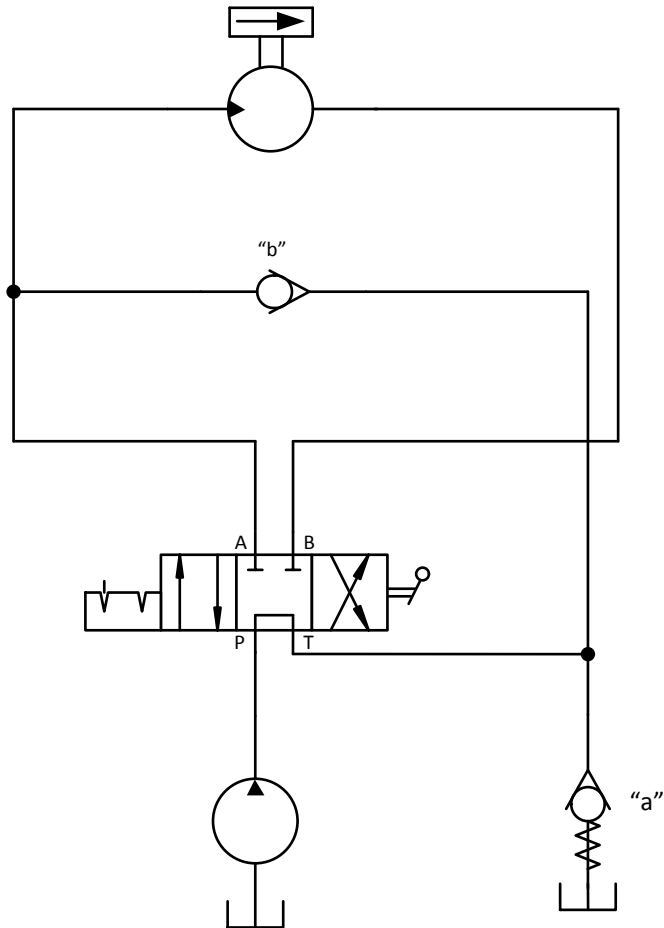

FIG 11.
- E. In the blocked inlet line, the hydraulic motor produces a vacuum which may lead to material damage as a result of (so-called cavitation). This can be prevented by fitting a replenishing line via a check valve. (Fig 11 on the next page)